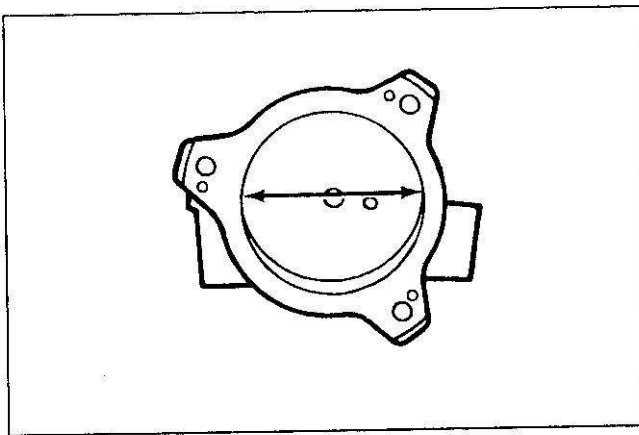

Figure 20. Inside Diameter of Vacuum Pump
- The inside diameter of the vacuum pump housing. The diameter must be 60.0–60.1 mm (2.362–2.366 in) (figure 20). Replace the housing if not within these specifications.